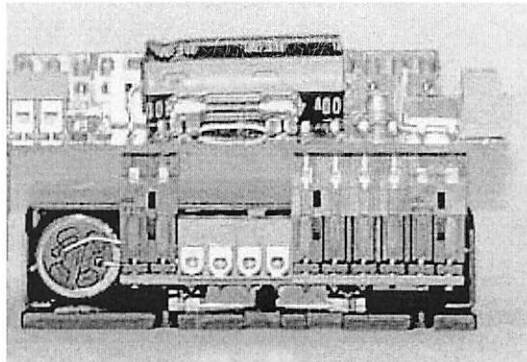

Figure 1 – Sample PMDX-I32 and Geckodrive Assembly
4. Take the results from step (3) above and configure the four PMDX-I32 jumpers JP5, JP6, JP7 and JP8 to supply to correct common reference to each Gecko drive. See section 5.4 for more information.
8. For each Gecko stepper driver module, install the motor current set resistor in the corresponding 2-pin terminal strip on the PMDX-I32. When looking at the PMDX-I32/Geckodrive assembly from the edge as shown in Figure 1, this would be the green 2-pin terminal strip above and to the right of each Geckodrive module.
10. The resulting assembly should look similar to Figure 1.